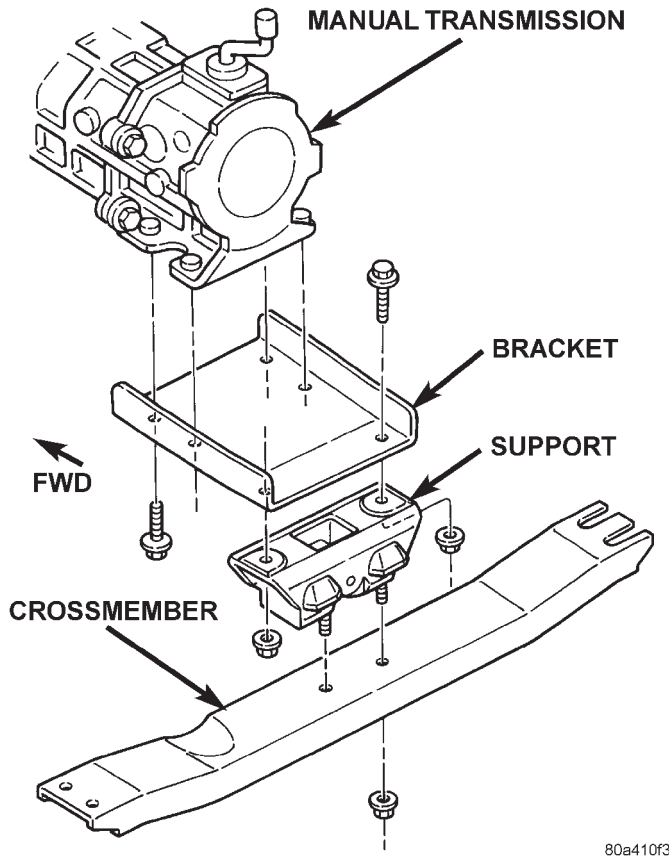

Fig. 8 Rear Mount
- (1) Disconnect negative cable from battery.
- (2) Raise the vehicle and support the transmission.
- (3) Remove the nuts holding the support cushion to the bracket (Fig. 8). Remove the crossmember.